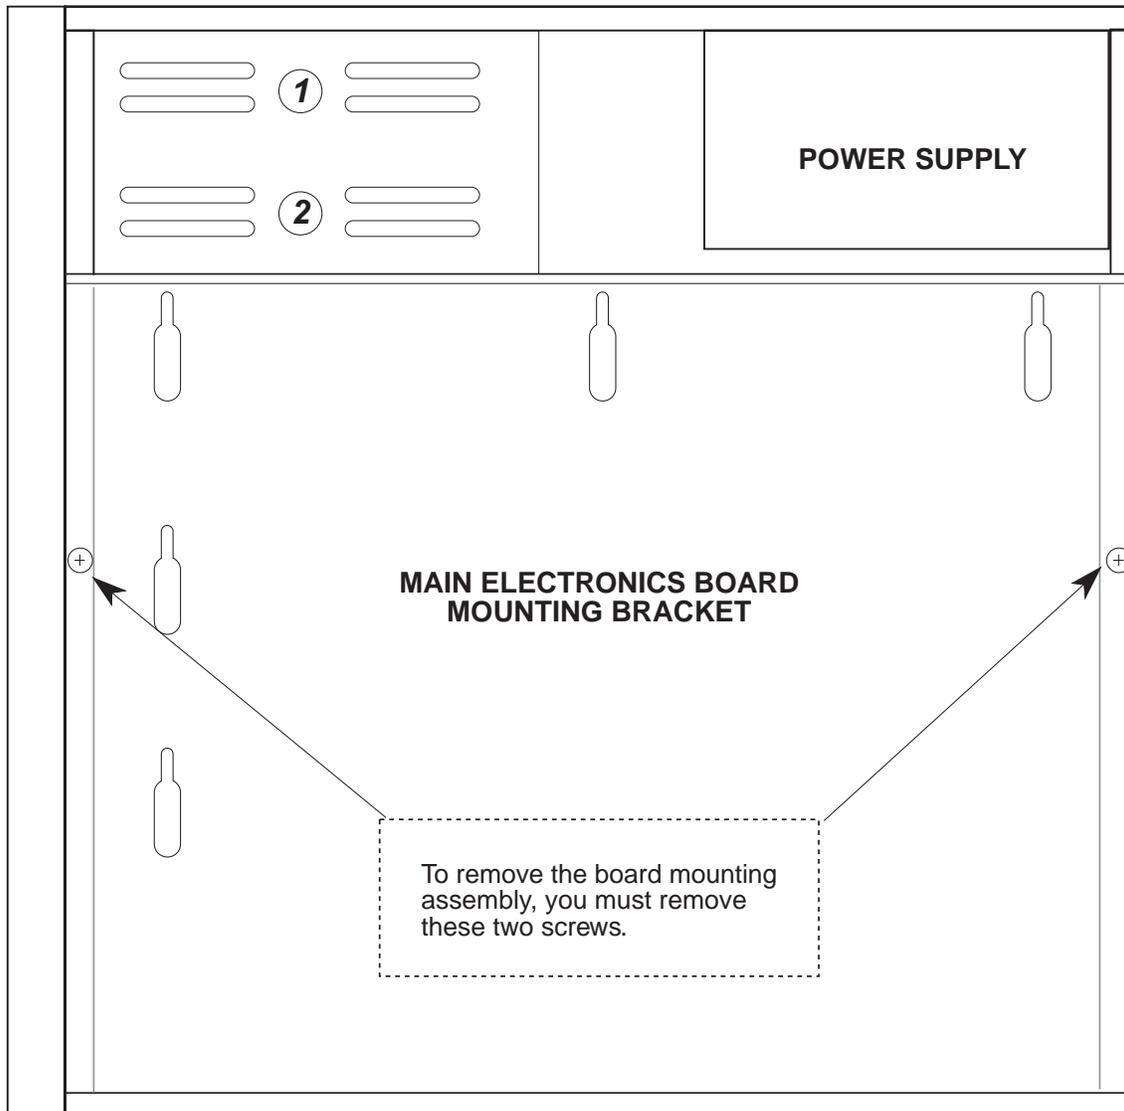

Figure 6-2: AM-137 Mounting Bracket Removal
4. Remove the two screws attaching the AM-137's mounting plate to the chassis, as shown in Figure 6-2.